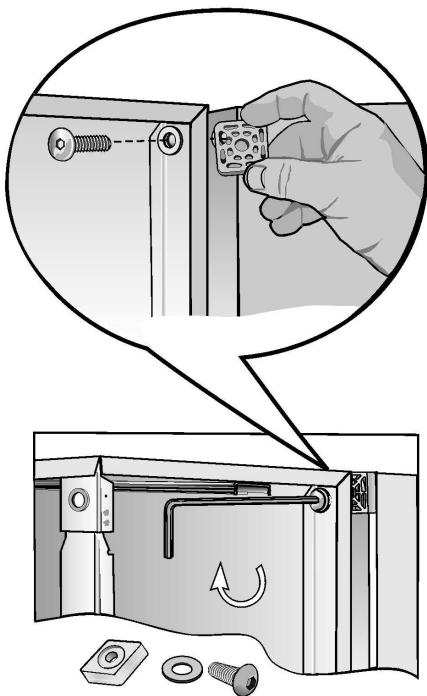

Figure 10
- Using the 6 mm Allen (Hex) wrench, install the socket head cap screws and flat washers (see Figure 10).
Use the wrench to **HAND TIGHTEN** all screws (see Figure 10).